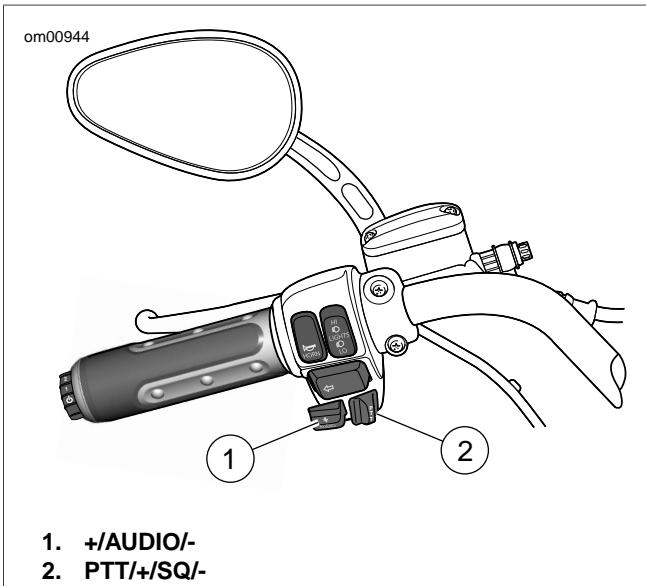

Figure 22. LH Audio Controls: FLHTCUSE3
See Figure 22. Easy to operate while riding, audio controls are mounted on the left hand switch housing on the left handgrip. The left hand audio controls are a **+/AUDIO/-** and a **PTT** **+/SQ/-** switch.
**AUDIO:** See Figure 22. Press the **AUDIO** switch to access the Audio/Setup menu on the LCD. Press and release **AUDIO** or the press the soft key to toggle to the next displayed function in sequence from Bass, to Treble, to Fade, to Display, to Volume and then to AVC.
See Figure 22. Push-To-Talk (**PTT**) and the squelch control switch (**+/SQ/-**) is located on the left handlebar switch assembly.